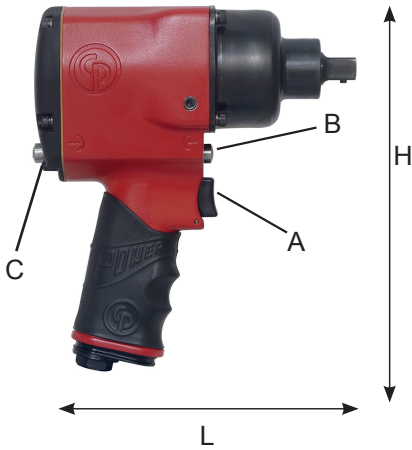

Fig. 02
- To switch rotation, push the switch (B) as shown in Fig. 02